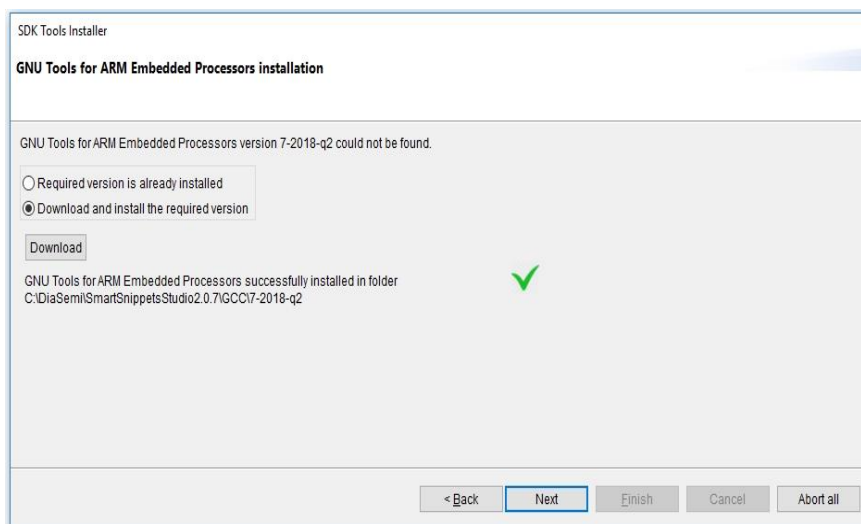

Figure 19: GCC Tools Installation
- The SDK Tools Installer will prompt for the installation of GCC. Select **Download and install** the required version and click **Download**. After the download is complete, the green completion mark appears. Then press the **Next** button to continue as shown in **Figure 19**.